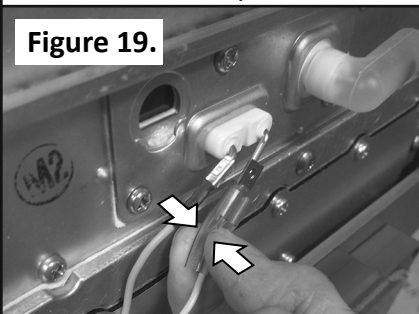
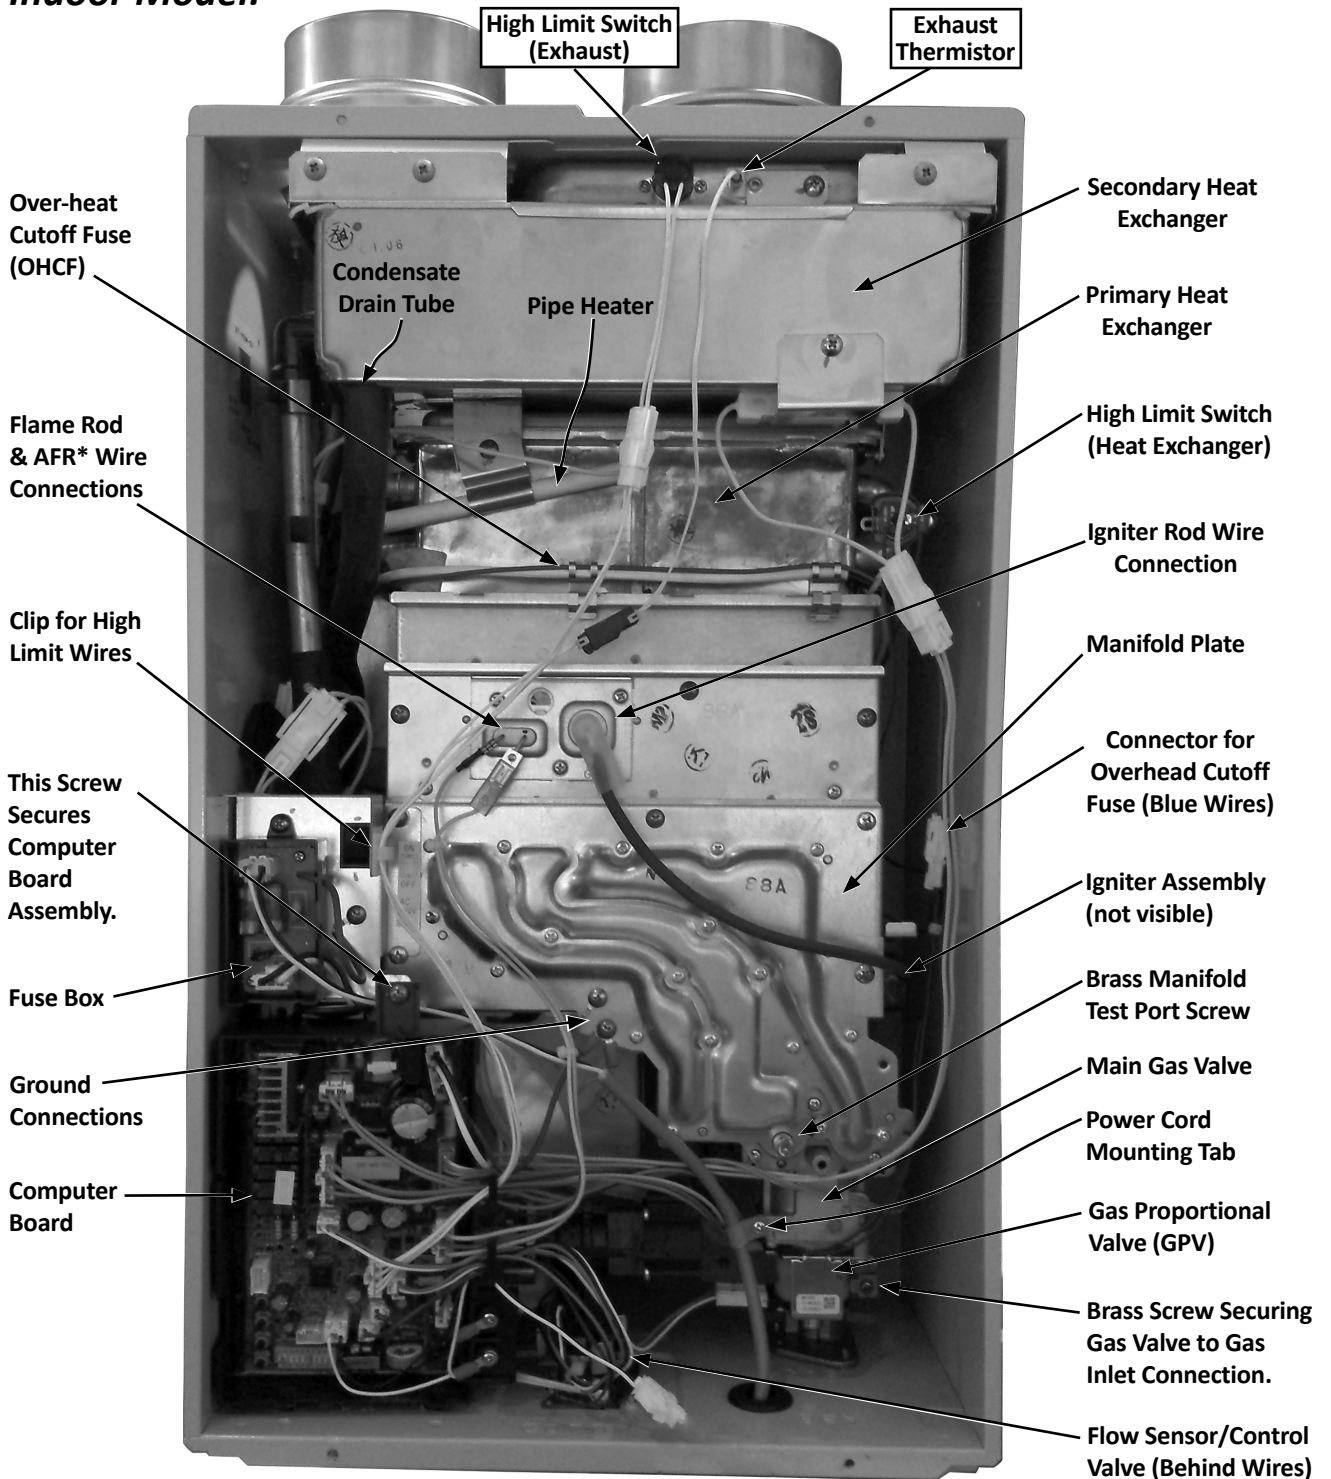

Figure 19.
Figure 24.
2. Remove the computer board from the water heater according to the following steps. (See also Figure 24, page 35.)
715, p. 70). See also Figure 24, page 35.
NOTE: Outdoor models will not include an exhaust thermistor. Its location on indoor models is shown on Figure 24, page 35.
- 2.2 Unclip the high limit wires from the side of the fuse box assembly. The wires are secured by a nylon clamp (item 712, p. 68). See also Figure 24, page 35.
- Flame rod wire (orange): Item 708 (page 69); See also page 35, Figure 24.
- Air-fuel ratio rod/AFR wire (yellow): **See Figure 19.** See also page 35, Figure 24.
- Igniter rod wire (black): Item 709, page 69; See also page 35, Figure 24.
- 2.4 Remove the screw that secures the computer board assembly. (See Figure 24, p. 35.) **Do not remove connectors from the circuit board.**
- 4.2 Remove the screws that secure the manifold plate (Figure 24, page 35).
- 4.5 Disconnect the connector on the right side (blue wires) which goes to the overheat cutoff fuse (Figure 24, page 35).
- 4.6 Remove the screw securing the gas valve to the gas connection. The screw is located at the bottom, right-hand side of the gas valve; see Figure 24, page 35.
- Figure 24, page 35, which shows the location of basic components.
- 1.2.3 IF isolation valves are not installed: remove the filter (item 405, page 70) and open the pressure relief valve.
2. Remove the Temperature Controller (item 721, page 67) by disconnecting the white connectors that go to the computer board.
3. Remove the computer board as follows (item 701, page 68; see also Figure 24, page 35):
- 3.2 Remove the screw at the top of the computer board assembly, then remove the board (Figure 24, p. 35).
4. Remove the fuse box assembly (items 703, 120; page 68):
5. Remove the flow sensor/control valve (item 402, page 70; see also Figure 24, page 35):
7.1 Remove the screw that secures the igniter assembly (See Figure 24, page 35.)
7.2 Disconnect the igniter wire at the igniter rod wire connection (Figure 24, page 35).
8. Disconnect the blue wires from the high limit switch. See “High Limit Switch (Heat Exchanger),” Figure 24, page 35.
9.2 Remove the screws that secure the manifold plate (Figure 24, page 35).
9.5 Disconnect the connector on the right side (blue wires) which goes to the overheat cutoff fuse (Figure 24, page 35).
9.6 Remove the brass screw securing the gas valve to the gas connection. The screw is located at the bottom, right-hand side of the gas valve; see Figure 24, page 35.